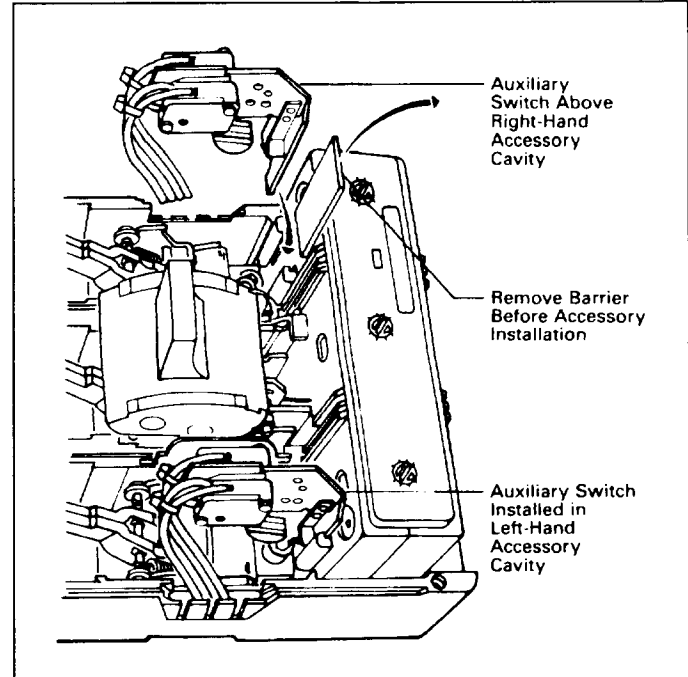

Fig. 2-3. Auxiliary Switch Installation Positions
2-5. For high instantaneous trip-type (catalog suffix K designation) molded case switches, find recessed hole in either of the trip unit outer poles normally intended for intermediate plunger (Fig. 2-3). Push a fine point implement in one hole to trip the molded case switch.
2-7. Insert auxiliary switch as described in the following steps (Fig. 2-3).
- a. Remove barrier from trip unit accessory mounting slots in pole being used for accessory (see Fig. 2-3).